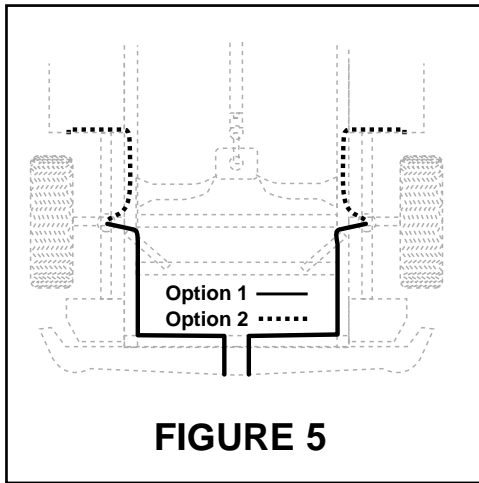

FIGURE 5
16. Select location on the vehicle for the air inflation valves (Figure 5). The location can be on the bumper or on the body of the vehicle, but be sure that it is protected so that the valve will not be damaged and will still be accessible for the air chuck.